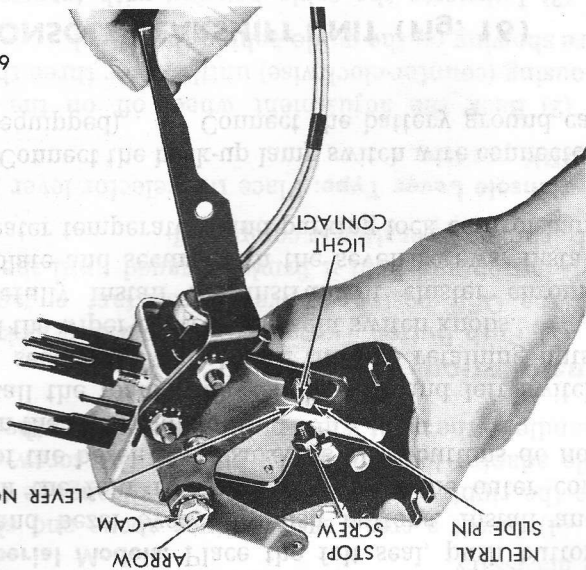

Fig. 14—Adjusting Lever Nose Contact at Neutral Slide Pin
(1) Remove the overcenter spring and back off the lever stop screw (Fig. 14). Make sure no binding exists in the neutral slide, neutral slide pin and bushing, cam pivot, and that they are adequately lubricated.
(2) Hold the neutral slide in against the rocker bar with about 5 to 10 pound load.
(3) Loosen the lock nut and rotate the cam so the lever nose just touches the neutral slide pin as it passes over the pin when moving the parking lock lever from the OFF to ON position. Only light contact should occur so the lever does not hang up on the pin. Hold the cam in this position and tighten the lock nut to 95 inch-pounds torque. Install overcenter spring.